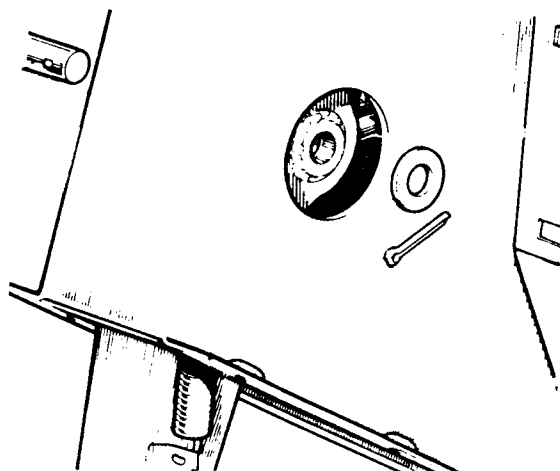

Fig K1.10
- (8) Refer to Fig K1.10. Remove the split pin and pivot pin from the brake pedal to servo coupling.